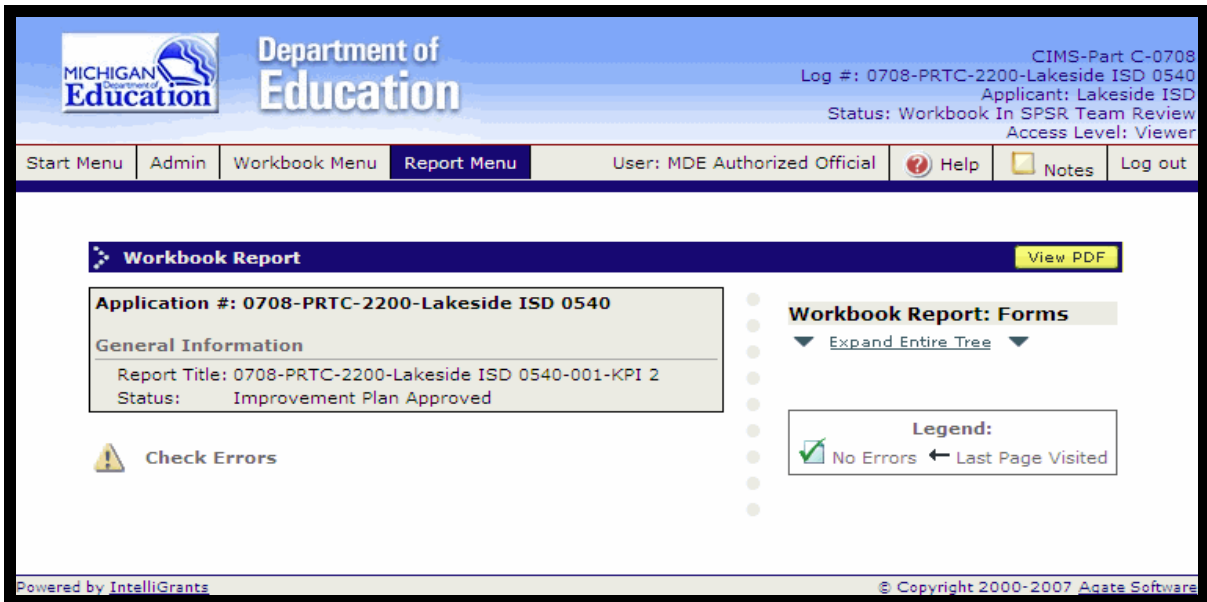
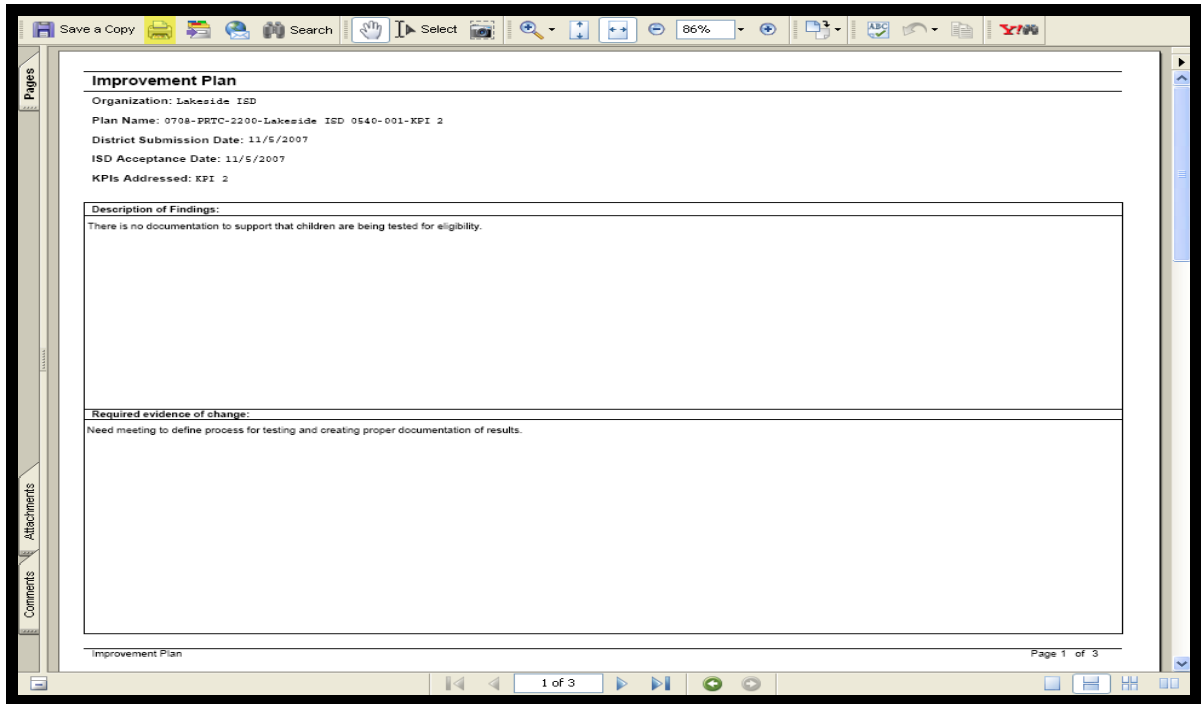

Figure 92
Figure 93
2. From the resulting Improvement Plan **Report Menu** screen, click the **View PDF** button to generate the Improvement Plan PDF (Figure 92). A new window will open displaying the report in PDF format (Figure 93).